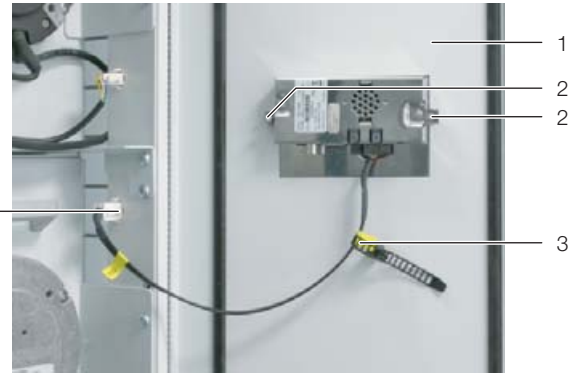

Fig. 37: Securing the graphic display
- Push the display into the cut-out from the outside until it is in contact with the door (fig. 37, item 1) of the Liquid Cooling Package at the front.
- Tighten the two assembly screws (fig. 37, item 2) from the inside.
- Connect the connection cable of the display to the corresponding socket in the Liquid Cooling Package (fig. 37, item 4).
- Attach the strain relief (fig. 37, item 3) to the connection cable to prevent accidental damage to the cable e.g. when opening the door.